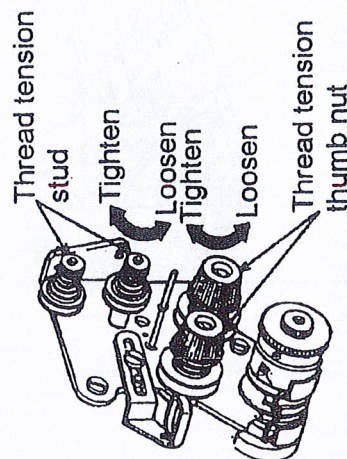

Fig. 10
14、Adjustment of upper thread (Fig.10):